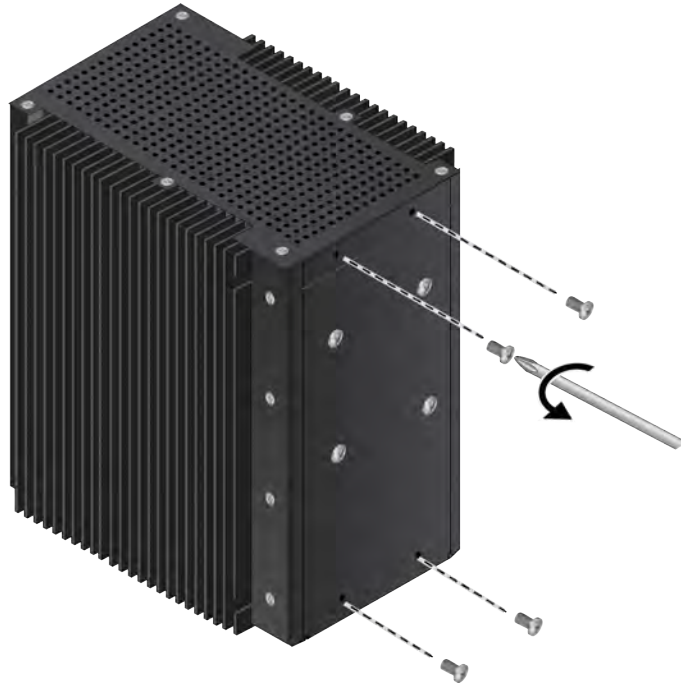

Figure 32. Removing the Four Screws from the Rear Panel
4. Remove the four screws from the top and bottom of the rear panel of the switch. Refer to Figure 32.
4. Remove the four screws from the top and bottom of the rear panel. Refer to Figure 32 on page 80.